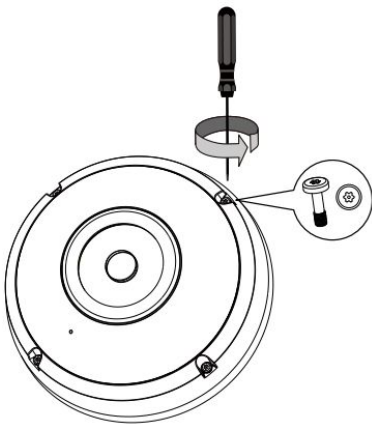

Figure 1-2
Step 2 Remove the dome cover from the camera body. See Figure 1-2